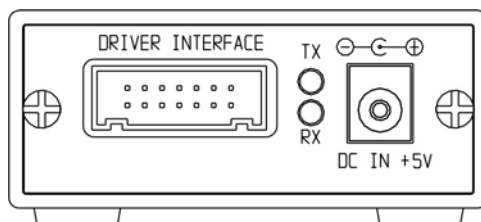

Figure 1. Model 8210A-2-5 Front Panel
**1-3 EQUIPMENT DESCRIPTION:** API/Weinschel's Model 8210A-2-5 *SmartStep* Programmable Attenuator/Switch Controller (Figure 1) is designed to interface with Weinschel's line of *SmartStep* programmable attenuators and represents a new concept in device control applications for bench test and subsystem designs. The 8210A-2-5 provides a high-level interface from a standard RS-232/RS-422/RS485 communications interface to the *SmartStep*'s serial Driver Interface Bus.
- d. Connect a +5 V Power Supply to the Model 8210A-2-5's DC IN +5V Input Connector which is located on the Model 8210A-2-5 front panel (Figure 1), is a standard 2.5mm barrel style DC jack. Refer to specifications for exact power requirements.